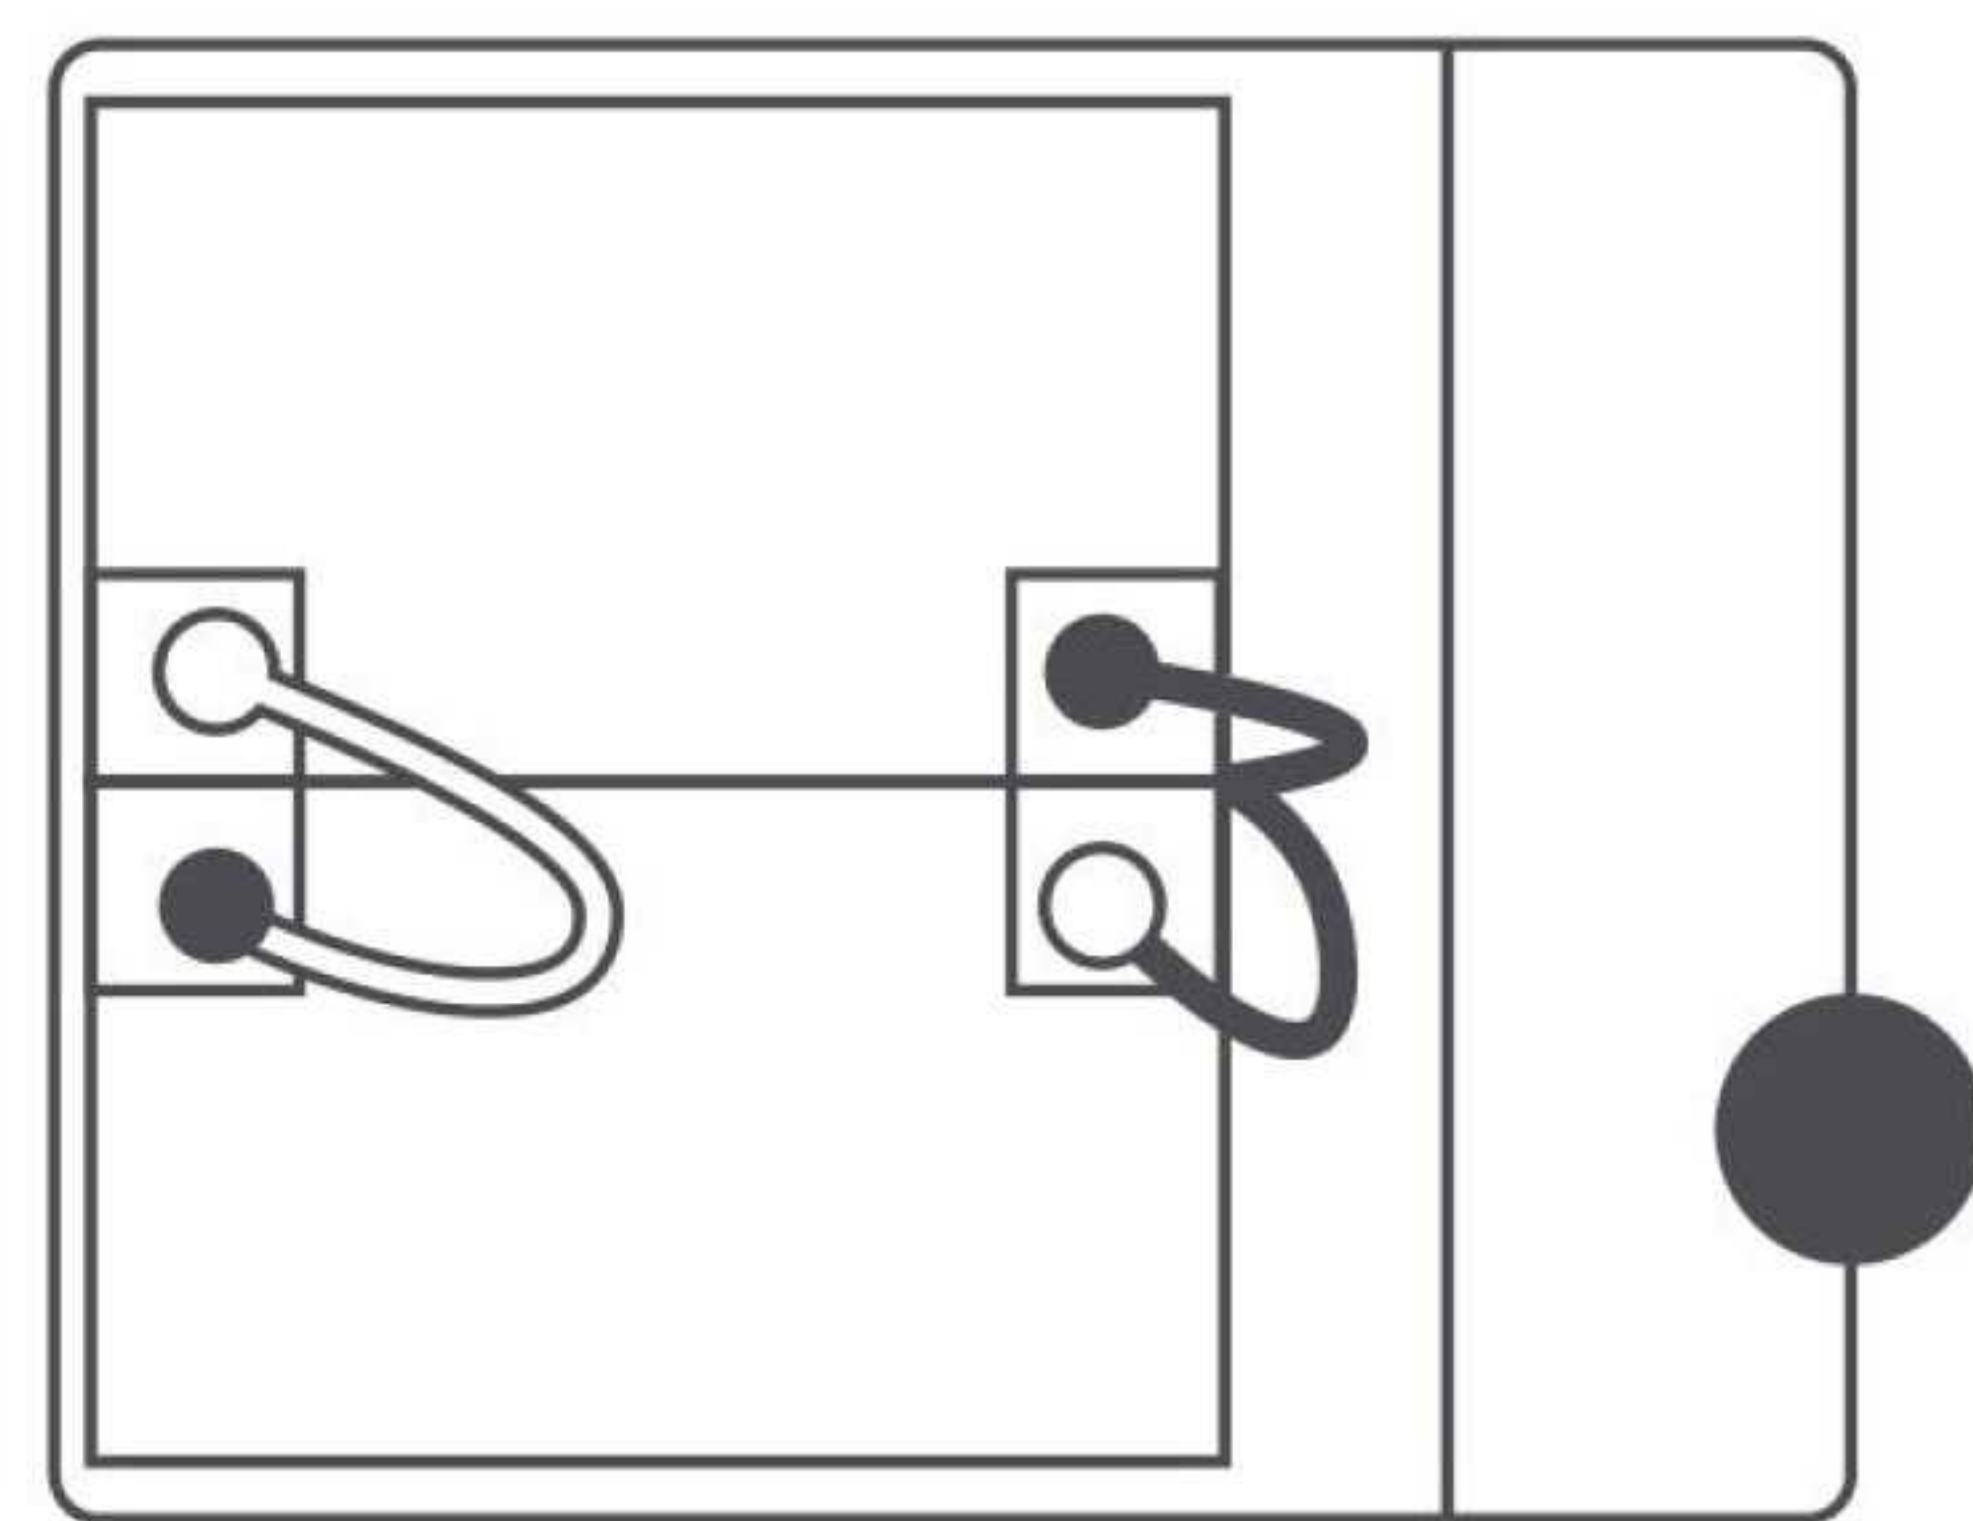

图 1
4. 按照（图1）所示方向将电瓶放入电瓶舱，正立安装（禁止倒置），确保接线柱朝向一致，且相邻电瓶间距 $\geq 5\text{mm}$ 。
Put the battery into the battery compartment in the direction shown in Figure 1, install it upright (no inversion), ensure the terminals face the same direction, and the distance between adjacent batteries is $\geq 5\text{mm}$.